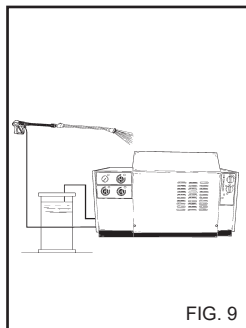

FIG. 9
3) After using with detergent, flush out the intake circuit; place the detergent suction hose (fig. 9) in a tank of clean water and let the pump run for 1 minute with the dosing tap turned fully on.